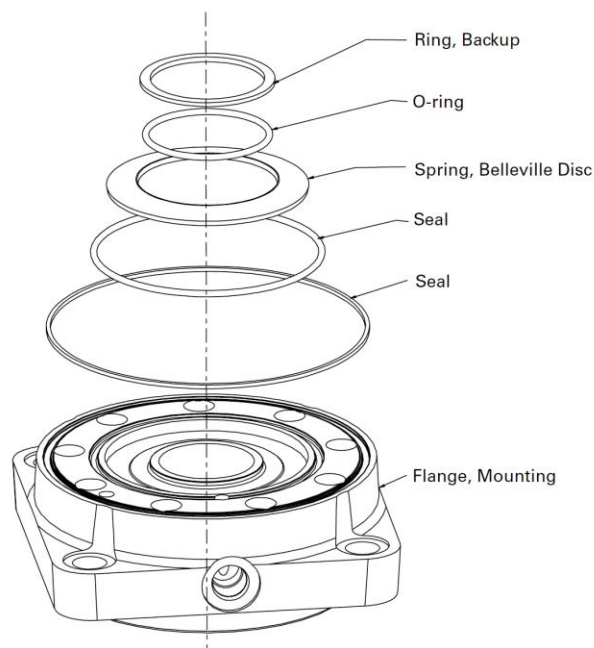

Figure 8 Flange
7. With mounting flange o-ring grooves up (see Figure 8), install two o-ring seals (130,9 [5.16] ID & 92,3 [3.63] ID) into flange. Install back-up ring (56,1 [2.21] OD) over o-ring (48,9 [1.93] ID) with flat side up. Back-up ring and o-rings may be greased to assist in retaining parts.